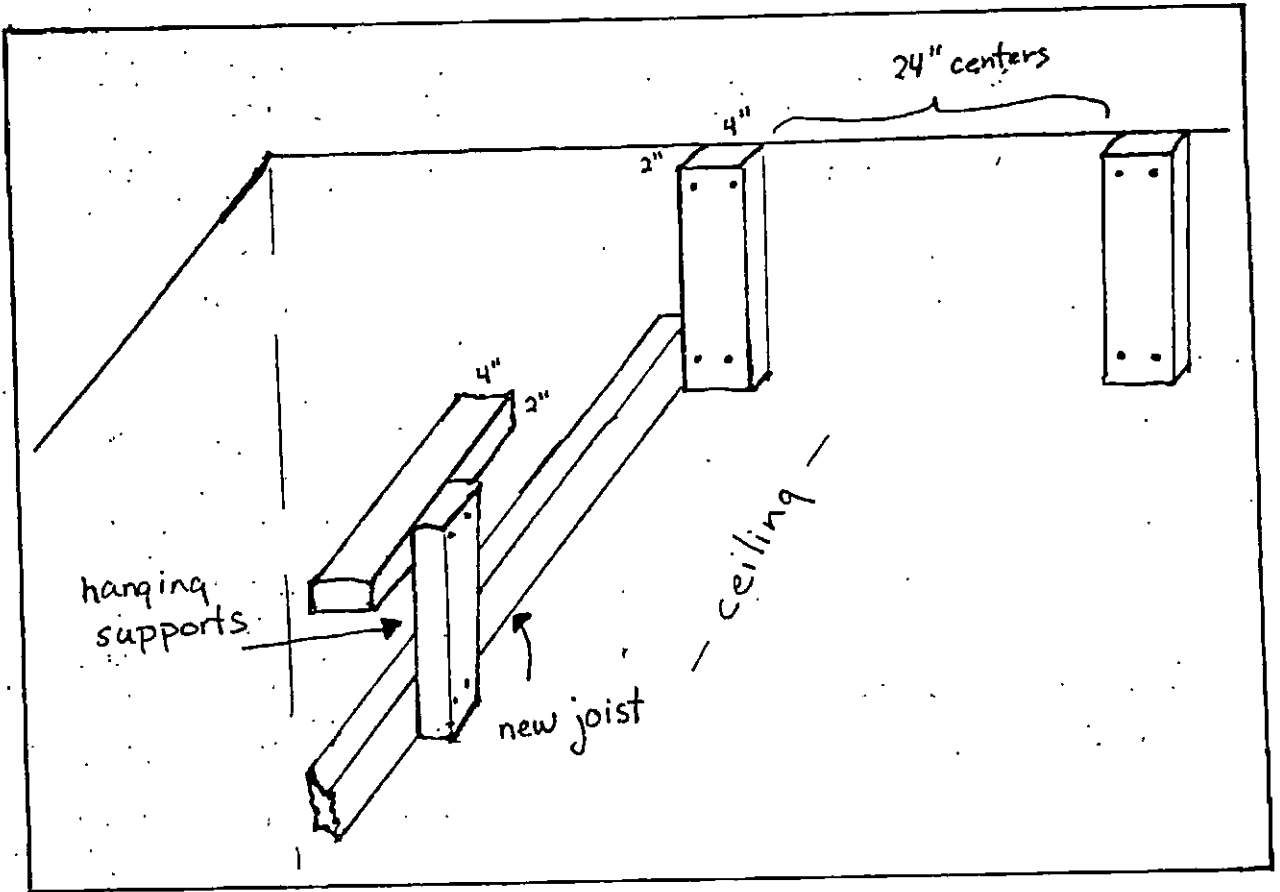

FIGURE 39
2. Nail connector supports out of 2 x 4's into two parallel walls. Preplan ceiling joists centers at 24". --Remember: A ceiling joist must be along each parallel wall (see Fig. 39)
3. Construct hanging supports in middle of ceiling with a 2 x 4 block nailed to ceiling, then a 2 x 4 for the dropping support nailed into block and toenailed into ceiling. One hanging support for every 6'-8' of ceiling. (See Fig. 39)